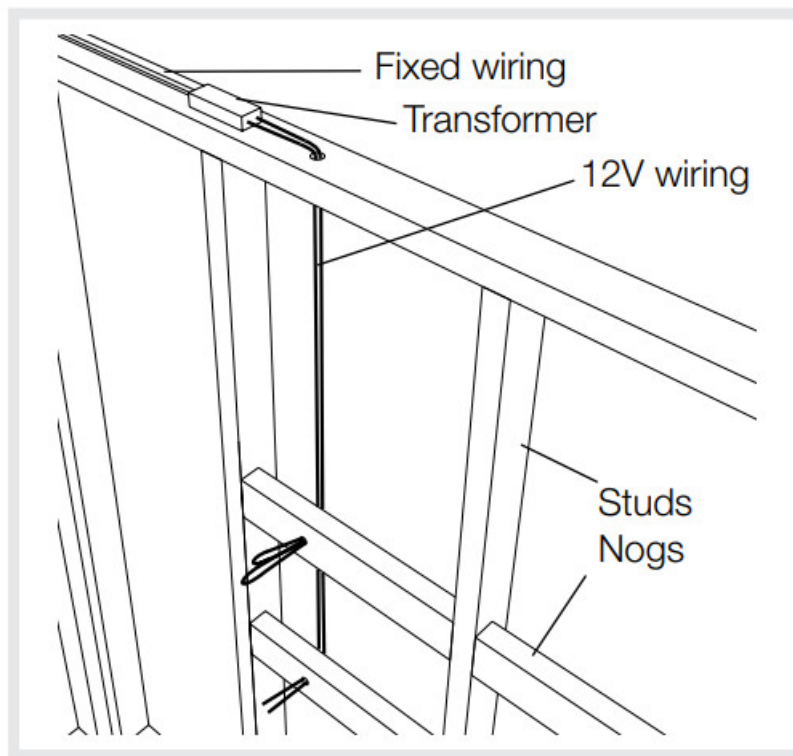

Figure 1.0
- Typical wiring for timber framed walls is shown in *Figure 1.0*
- Pull the supplied appliance wire through the 10mm holes as shown in Figure 1.0 and connect to the 12V